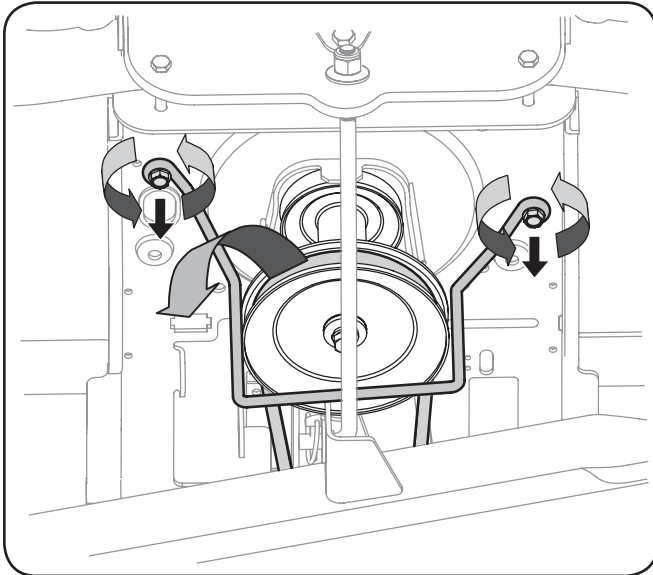

Figure 7-1
3. Locate the engine pulley under the front of your tractor. See Figure 7-1.
4. Remove the belt guard and belt as follows. Refer to Figure 7-1:
11. Replace the belt guard. See Figure 7-1.